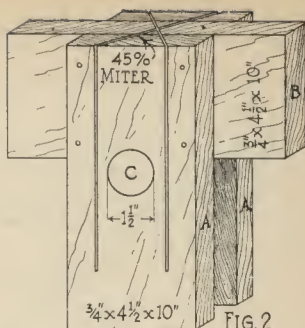

FIG.2
Figure 2 shows another box made for cutting a miter on a moulded base. It is made of two pieces of $\frac{3}{4} \times 4\frac{1}{2} \times 10$ inch oak (A) and one piece of $\frac{3}{4} \times 4\frac{1}{2} \times 10$ inch W. P. (B) nailed together as shown. A $1\frac{1}{2}$ inch hole (C) is bored, as shown, so you can see your mark when this is placed on top of the base board.